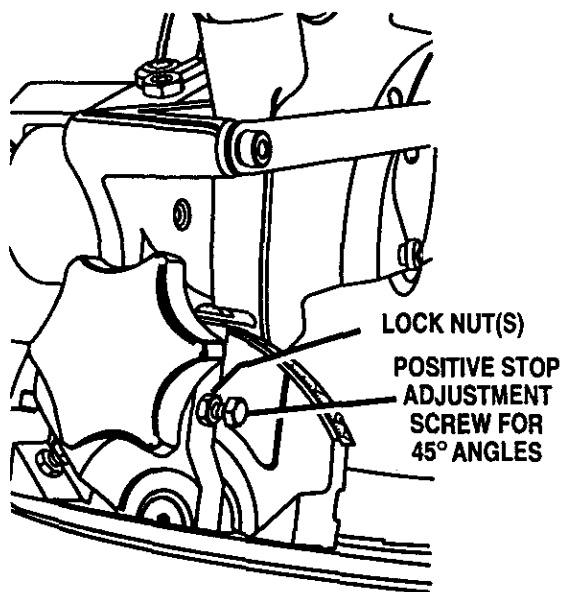

Fig. 24
- Adjust positive stop adjustment screw to bring saw blade into alignment with the square. See *Figure 24*.